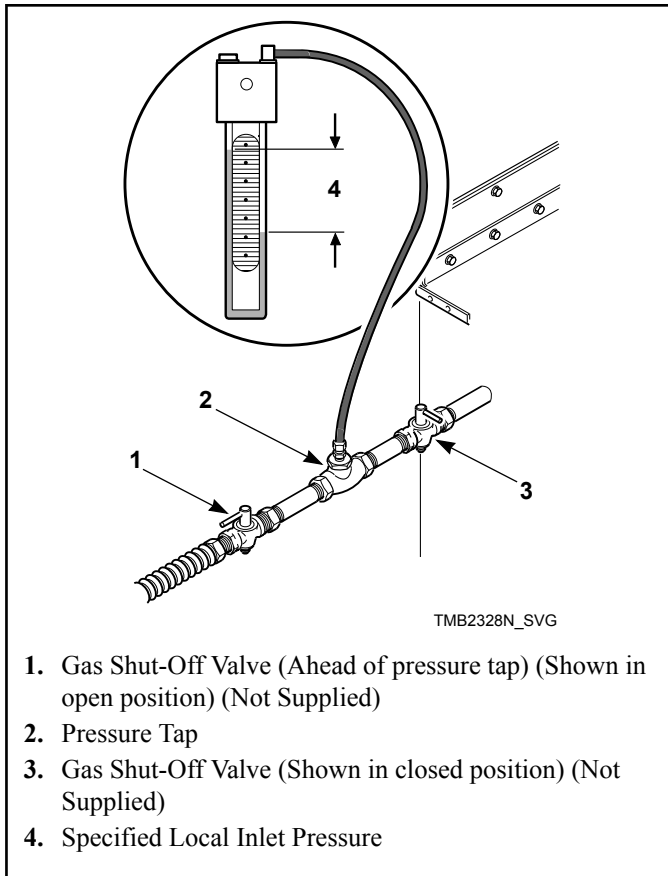

Figure 8
1. Disconnect electrical power from tumble dryer. Close gas shut-off valve to tumble dryer. Refer to *Figure 8*.